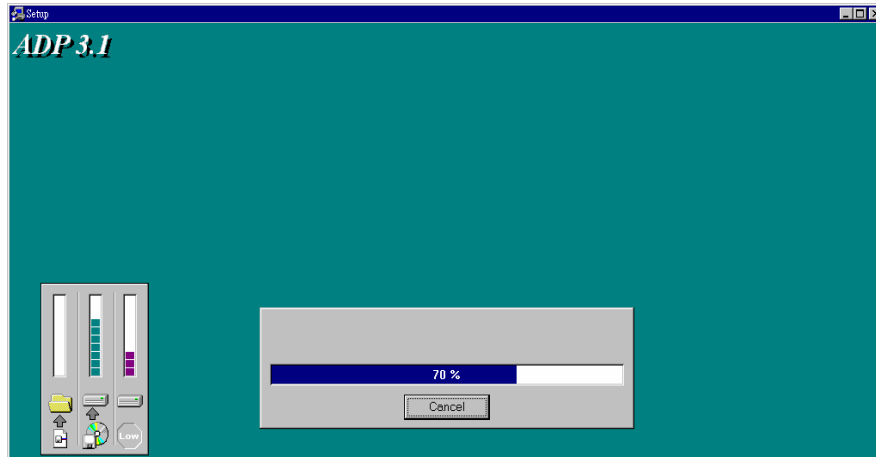

Fig 1-4 ADP software installs automatically
5. After clicking “Next”, the system starts the installation automatically. (See Fig 1-4)